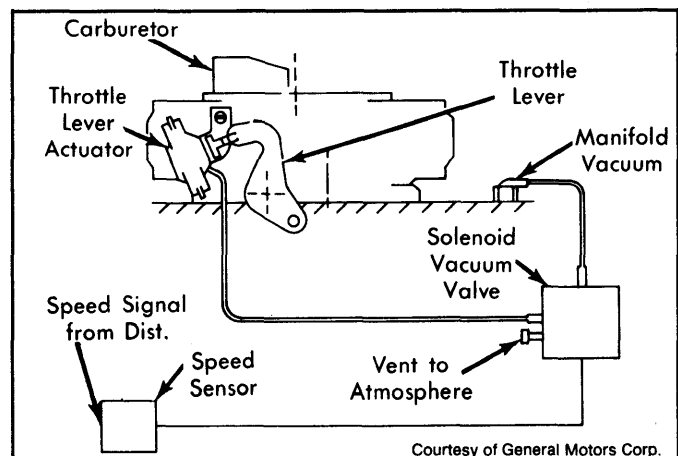

Fig. 3: 1979 Throttle Return Control System
3) Using a voltmeter, check for battery voltage at voltage wire terminal on solenoid valve and speed sensor. See Fig. 3. If voltage is present at one component only, repair wiring harness as required. If no voltage is present at either component, check engine harness connections at distributor and bulkhead connector and repair as required.